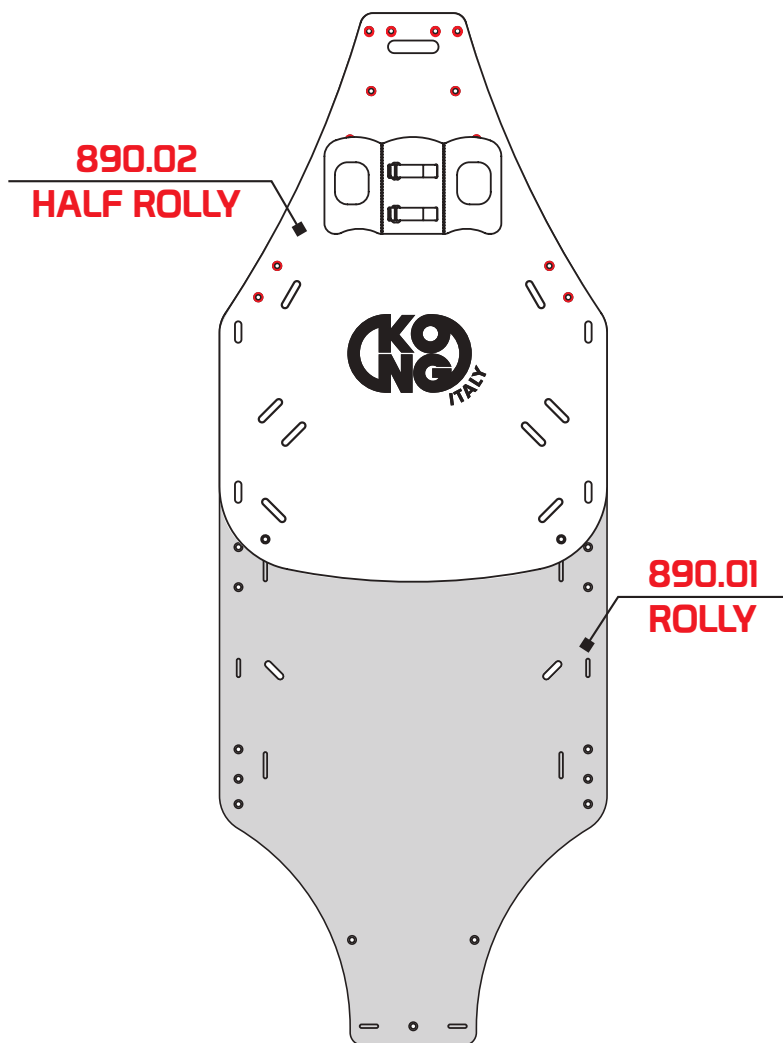
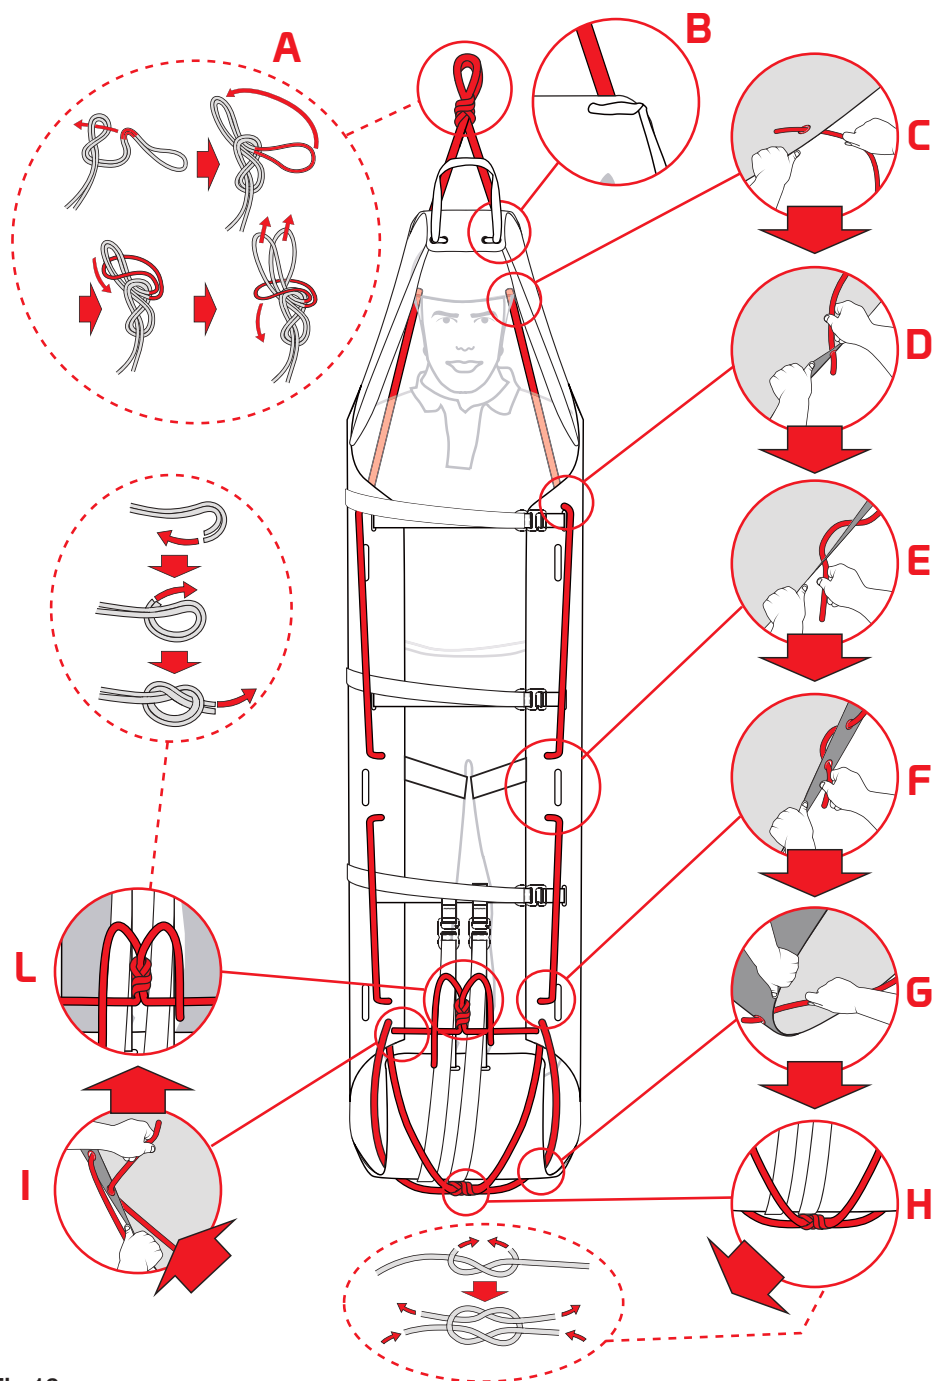

Fig.18
Fig.19
- Position the **“HALF ROLLY”** rescue sheet on top, with the immobilised patient, and make sure that the holes are aligned (fig. 18), and insert the rope (M) - fig. 19.